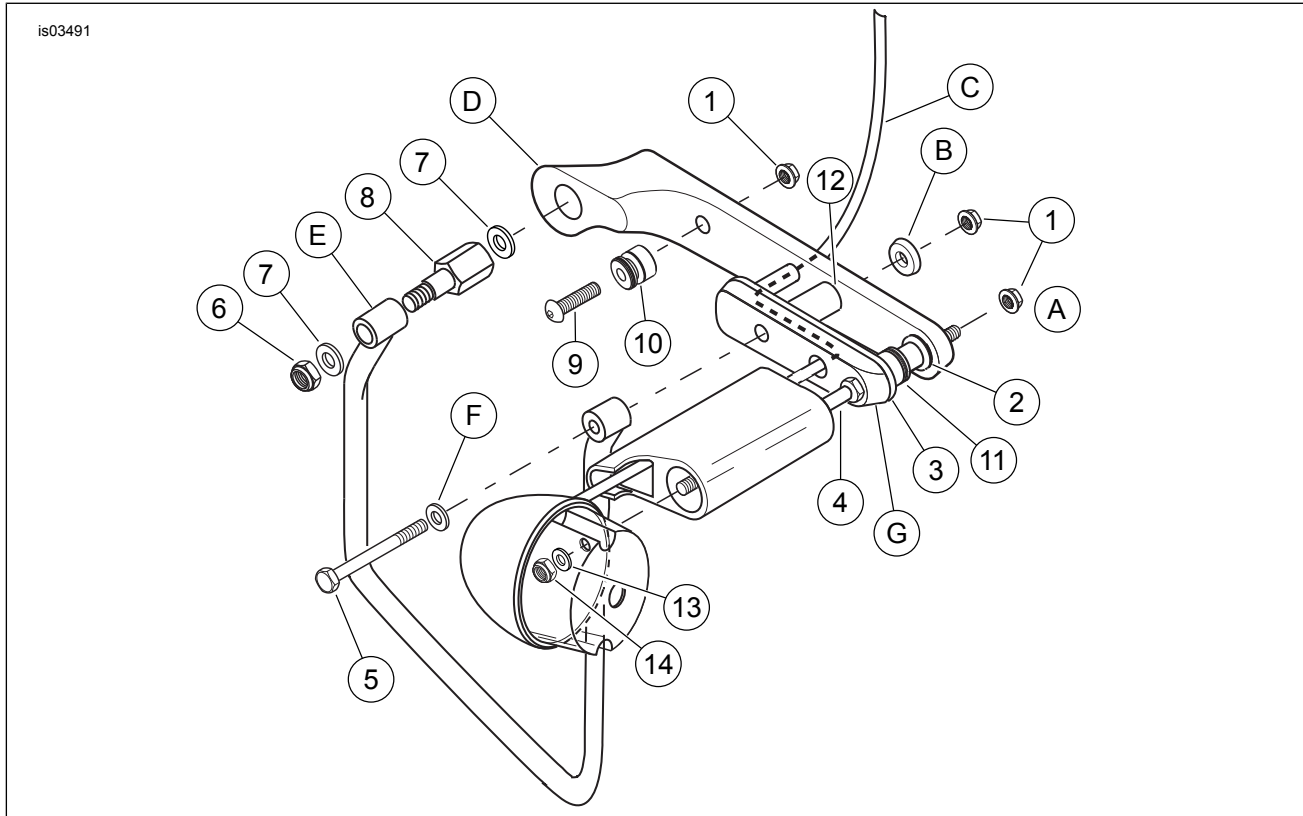

Figure 2. Service Parts: XL Docking Hardware/Directional Relocation Kit
See Figure 2 and Table 1.
1. See Figure 2. Following directions supplied with saddlebags to relocate rear turn signals, but also use the following exceptions to install the parts contained in this kit:
- Use turn signal studs (4) in place of hex bolts supplied with saddlebags. The longer studs are required to accommodate the rear docking points.
- On each side, insert relocation pad plate (3), saddlebag mount spacer (12), rear docking point (2), and docking point spacer (11) between relocation pad (supplied with saddlebags), and fender support cover as shown.
- Use 4-inch long cap screw (5) in place of hex bolts supplied with saddlebags. The longer cap screws are required to accommodate the rear docking points.
See Figure 2. Before mounting saddlebag supports, remove acorn nut from upper shock mount, and install washer (7), and shock mount spacer (8) as shown. Tighten upper shock mount spacer to 21-35 ft-lbs (28-47 Nm). This will properly space out the saddlebags to accommodate the docking points.
2. Mount front docking points with button head screws (9), and locknuts (1) as shown in Figure 2. Tighten locknuts to 8-10 ft-lbs (11-14 Nm).